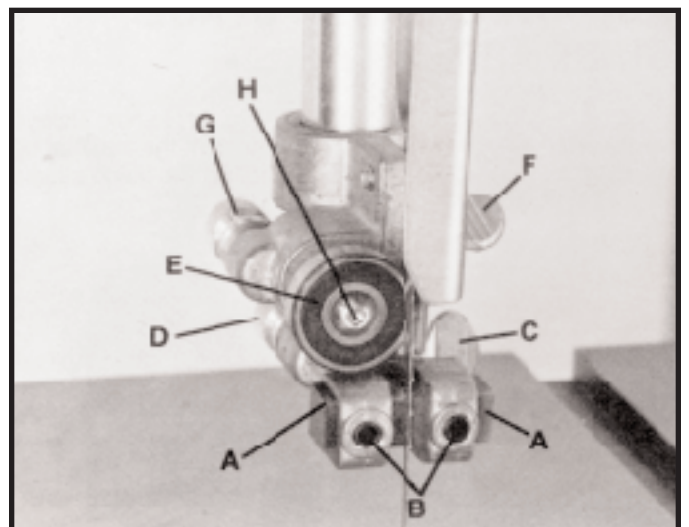

Fig. 45
1. The upper blade guides (A) Fig. 45, are held in place by means of the set screws (B). Loosen the set screws (B) to move the guides (A) as close as possible to the side of the blade, being careful not to pinch the blade. Then tighten the screws (B).
2. The guides (A) Fig. 45, should then be adjusted so that the front edge of the guides are just behind the gullets of the saw teeth. The complete guide block bracket can be moved in or out by loosening thumb screw (C) and turning knurled knob (D) Fig. 45. When guides (A) are set properly, tighten thumb screw (C).
3. The upper blade support bearing (E) Fig. 45, prevents the blade from being pushed too far to the rear which could damage the set in the saw teeth. The support bearing (E) should be set  $\frac{1}{64}$  behind the blade by loosening thumb screw (F) and turning knurled knob (G) to move the support bearing (E) in or out.
4. The blade support bearing (E) should also be adjusted so the back edge of the blade overlaps the outside diameter of the ball bearing by about  $\frac{1}{16}$ . The bearing (E) is set on an eccentric and to change position remove screw (H) and bearing (E) Fig. 45. Loosen thumb screw (F), back out screw (G) and re-position shaft that bearing (E) is attached to.